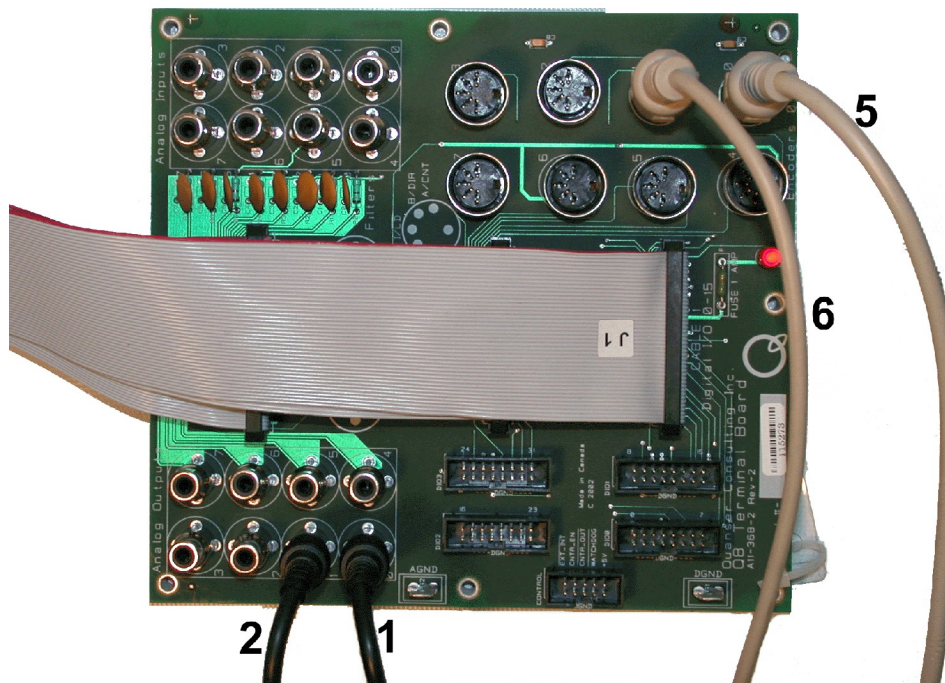

Figure 11: Connection on the terminal board.
This section describes the typical cabling connections that are used by default for the Quanser 2-DOF Helicopter system. Figures 11, 12, 13, and 14 illustrate, respectively, the wiring of the the Q8 Terminal Board, the Helicopter base, the UPM driving the front motor, and the UPM driving the back motor. The connections are described in detail in the procedure below and summarized in Table 5.
3. Connect the 5-pin-DIN to RCA cable from the *Analog Output Channel #0* on the DAC board to the *From D/A Connector* on a UPM-2405. See cable #1 shown in Figure 11 and Figure 13. This carries the attenuated **front** motor voltage control signal, $u_p/K_{a,p}$, where $K_{a,p}$ is the UPM-2405 amplifier gain.
4. Connect the 5-pin-DIN to RCA cable from the *Analog Output Channel #1* on the DAC board to the *From D/A Connector* on a UPM-2405. See the cable #2 shown in Figure 11 and Figure 14. This carries the attenuated **back** motor voltage control signal, $u_y/K_{a,y}$, where $K_{a,y}$ is the UPM-1503 amplifier gain.
7. Connect the 5-pin-stereo-DIN to 5-pin-stereo-DIN cable from the *Pitch Encoder* connector on the 2-DOF Helicopter base to *Encoder Input #0* on the terminal board. See connection #5 in Figure 11 and Figure 12. This carries the pitch angle measurement which is represented by variable θ .
8. Connect the 5-pin-stereo-DIN to 5-pin-stereo-DIN cable from the *Yaw Encoder* connector on the 2-DOF Helicopter base to *Encoder Input #1* on the terminal board, as depicted by connection #6 in Figure 11 and Figure 12. This carries the yaw angle measurement and is denoted by the variable ψ .